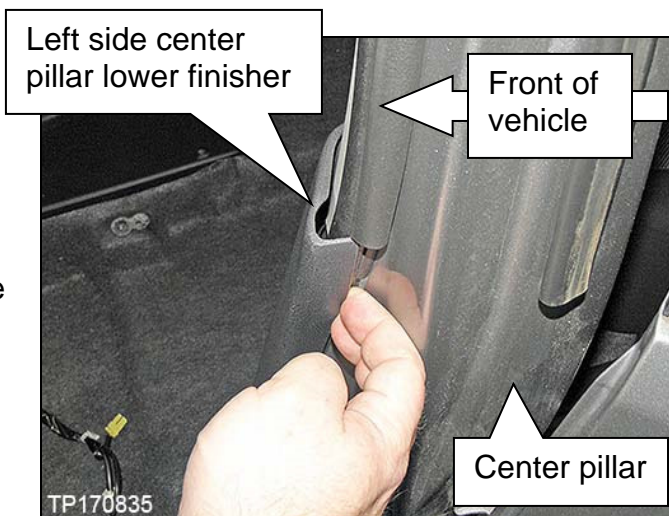

Figure 14
a. Slide fingers between the left side center pillar lower finisher and vehicle center pillar (B-pillar) where shown in Figure 14.